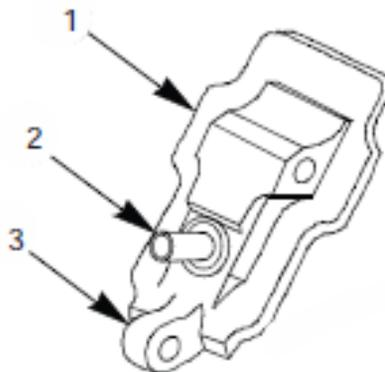

Figure 3. Buffer Plunger, Backplate
5. Visually inspect pivot tab (Figure 3, Item 3) and hole for cracks and breaks. If damaged, replace buttstock and buffer assembly.
6. Inspect buffer plunger (Figure 3, Item 2) for spring tension and oil leaks on face of backplate (Figure 3, Item 1). If spring tension does not exist or oil leak is detected, replace buttstock and buffer assembly.